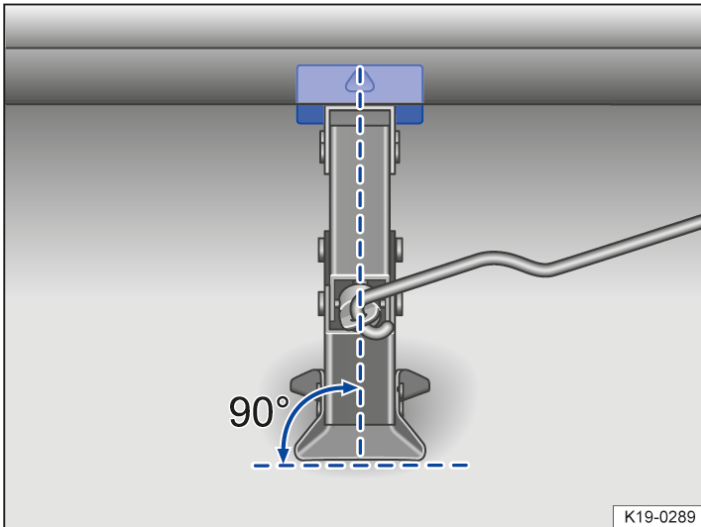
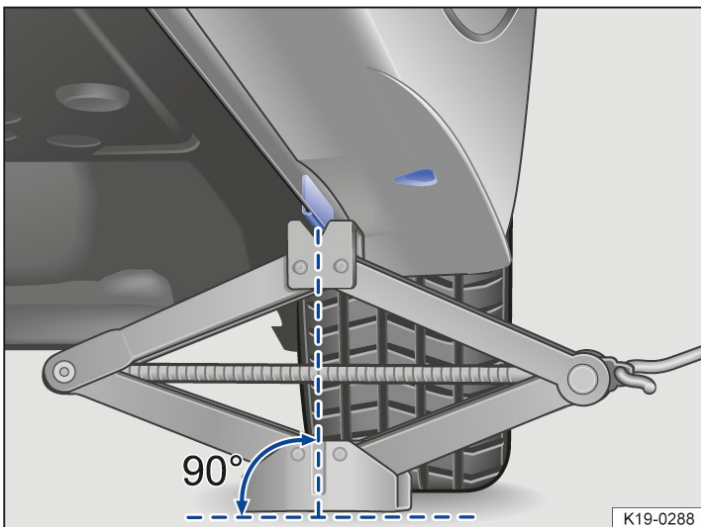

Fig. 2 Correct alignment of the jack.
Fig. 3 Scissors jack applied at the rear on the left-side of the vehicle.
10. Make sure that the entire surface of the foot of the jack is resting securely on the ground and that the foot of the jack is positioned vertically directly beneath the jacking point → Fig. 2 and → Fig. 3.
11. Position the jack and simultaneously continue to crank the claw up until it is in position around the vertical rib underneath the vehicle → Fig. 2.
- Fit the jack only at the described jacking points. The jack claw must grip the vertical rib under the side member securely → Fig. 3 or → Fig. 2.